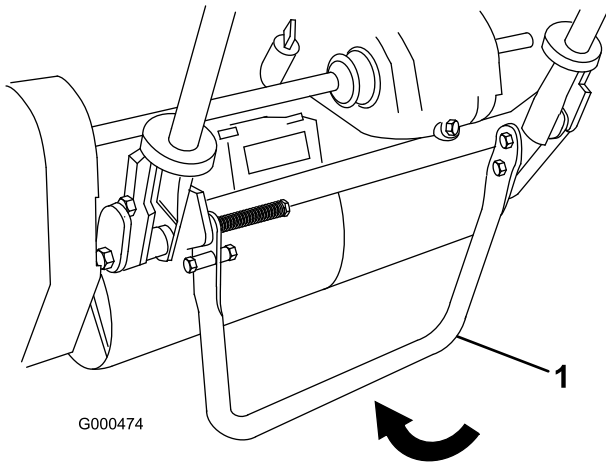

Figure 7
1. Push kick stand down with foot and pull up on handle support until kick stand has rotated forward, over center (Figure 7).